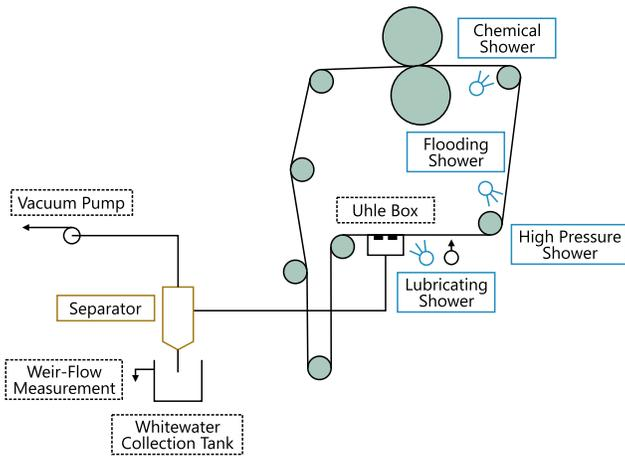

FIGURE 1.
Good press fabric cleaning and conditioning systems use hydraulic forces from high-pressure (HP) and low-pressure (LP) showers to loosen and flush contaminants from the press fabric through a Uhle box. A typical system (Figure 1) consists of an HP needle shower, a lubricating shower, and a Uhle box and vacuum system. Chemical showers are sometimes used to facilitate the cleaning process.